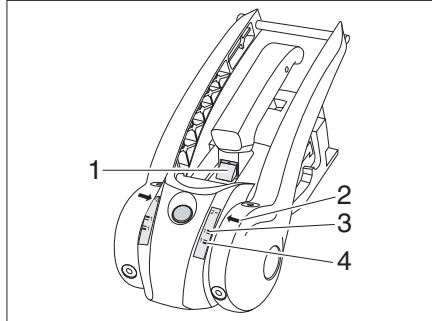

Fig. 152 Friction control of friction lining
- If the green marking (Fig. 152,1) is visible, the friction linings at the front and back are OK. If the green marking is no longer visible, the friction linings have to be replaced.
- If the arrow (Fig. 152,2) is below the softdock marking 1-green (Fig. 152,4), the friction linings on the right and left are OK. If the arrow (Fig. 152,2) is above the softdock marking 1-red (Fig. 152,3), the friction linings have to be replaced.
- If the green marking (Fig. 152,1) is visible, the coupling ball is OK. If the green marking is no longer visible, the diameter of the coupling ball < 49 mm and the coupling ball has to be replaced.